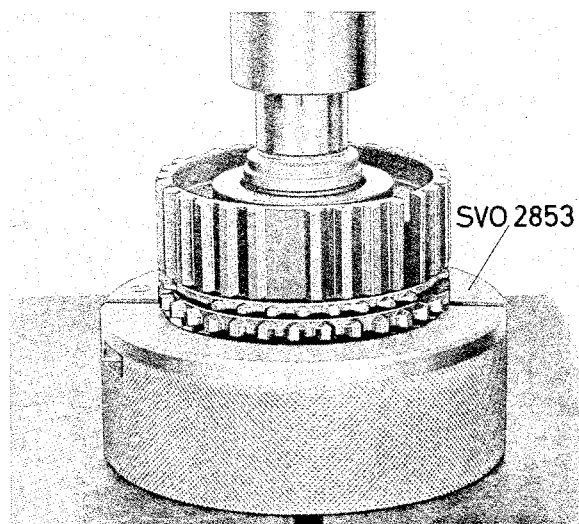

Fig. 4-20. Main shaft disassembly, II
4. Revert the shaft and place it in the press as shown in Fig. 4-20. Press off 3rd speed gear wheel and 4th speed synchronizing hub.